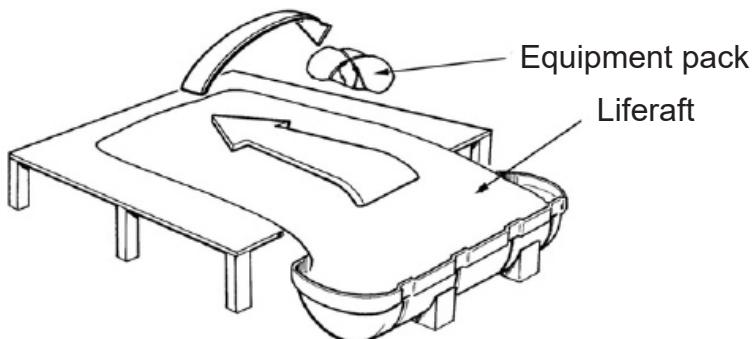

FIGURE 204
- 3.2.4 Lift the bulk of the raft out of the container and onto a packing table. Refer to FIGURE 204.
- 3.2.5 Unroll the liferaft completely. Fold the liferaft buoyancy tubes and canopy out of the way. Refer to FIGURE 204.
- 3.2.6 Remove the equipment pack(s) and set them aside. Refer to FIGURE 204.